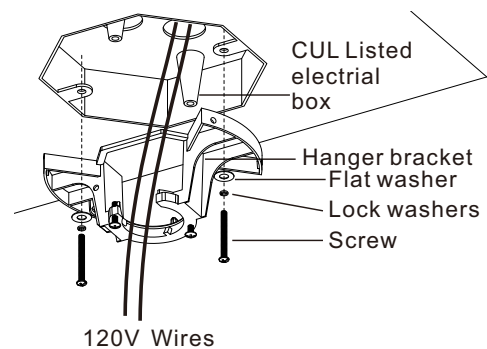

Figure 10
**Step 1.** Pass the 120-volt supply wires through the center in the ceiling hanger bracket as shown in (Fig. 10)